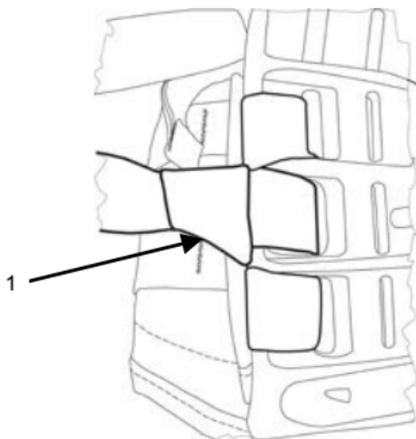

Figure 10. Girth Hitch.
6. Form a girth hitch (Figure 10, Item 1).